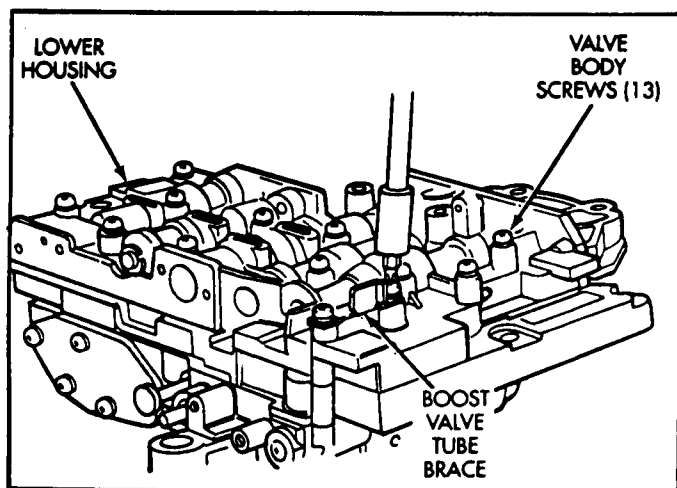

Figure 101
15. Install and start by hand the 13 valve body screws, making sure that the tube brace is installed in proper position, as shown in Figure 101.